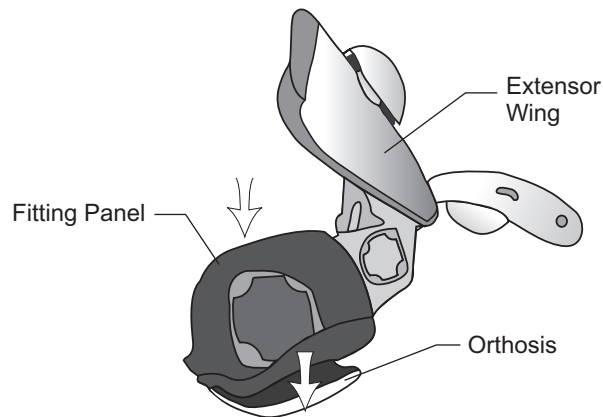

Figure 6-17: Placement of the Flexor Fitting Panel
2. With the Orthosis wing open, fit the flexor fitting panel to the Orthosis flexor support. See Figure 6-17.